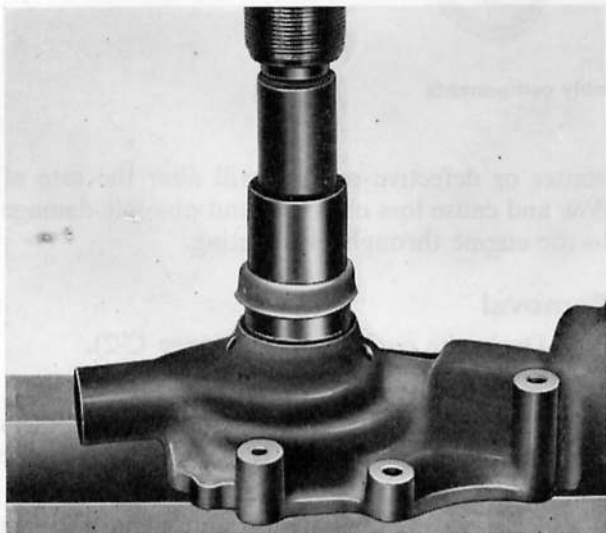

Fig. C.9. Pressing on a bearing retainer, using a sleeve of similar outside diameter
2. Locate a new bearing retainer squarely on the end of the pump body. Press on the retainer, using a sleeve as shown in Fig. C.9.